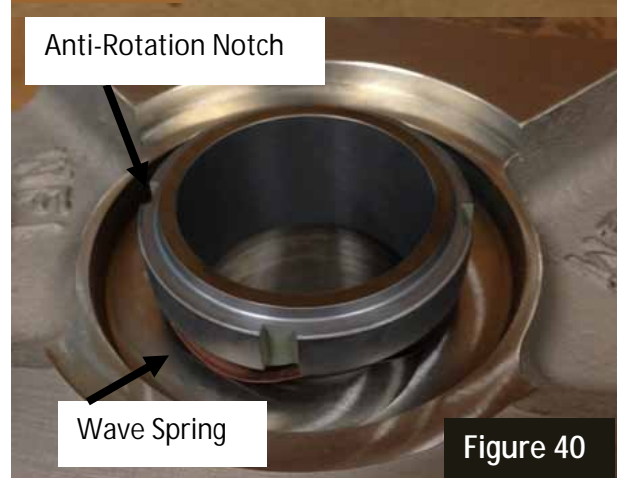

Figure 40
4. Place the wave spring on the inner seal and place into pump body. Take care to slid inner seal into body o-ring while aligning inner seal notch with anti-rotation pin in body, Figure 40.